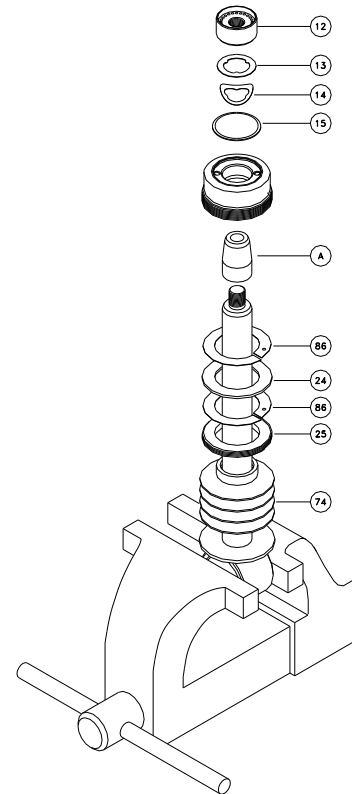

Figure 6-31; Mounting of the guide section
- Push the bellow (74) onto the piston rod
- Slide on Reservoir tube seal nut (25)
- Slide on Reservoir tube washer (86)
- Slide on Gasket reservoir tube seal (24)
- Now place the mounting sleeve (A) on the piston rod. *Please consult section 6.8 for the mounting sleeve*
- Carefully push the guide section onto the rod and then remove the mounting sleeve (Figure 6-31).